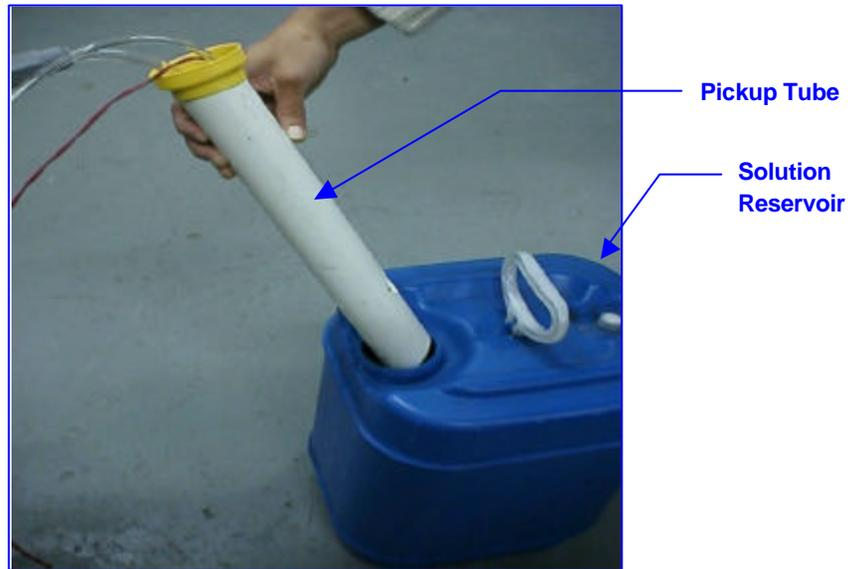

Figure 11: Pickup Tube & Solution Reservoir
Follow These Steps to Purge Your MT3000 for the First Time (refer to figures 11 and 12, page 18):
Step 1. Pull the pickup tube assembly (see figure 11, page 18) from the current solution reservoir.
Step 2. Purge system with *warm* water by placing the pickup tube (see figure 11 on page 18) into a bucket of water, then follow the purging instructions as described on page 17 until all solution lines are cleaned and filled with water.